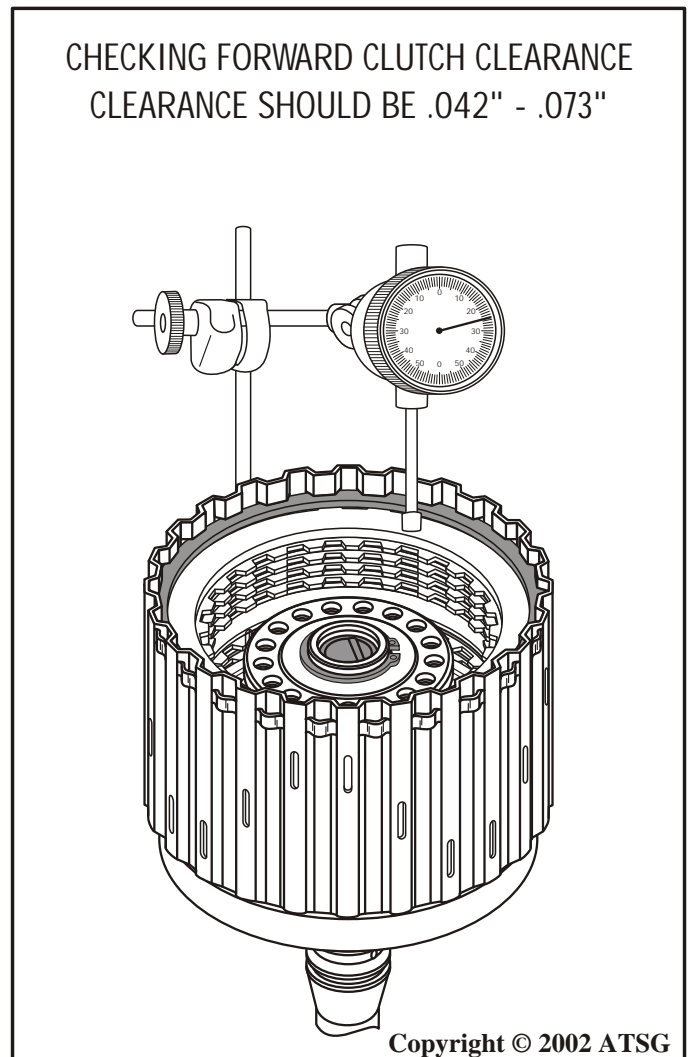

Figure 96
36. Install dial indicator on top of forward clutch backing plate, as shown in Figure 96, and zero the dial indicator.